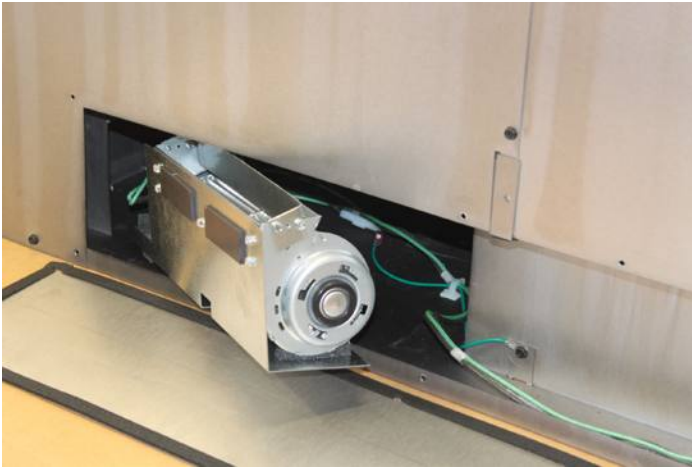

Figure 4
6. Begin installing the left blower assembly into the bottom of the fireplace. Once the blower is about half way in, secure wiring within the white plastic wire retention clips provided in the fireplace. **See Figure 4.**